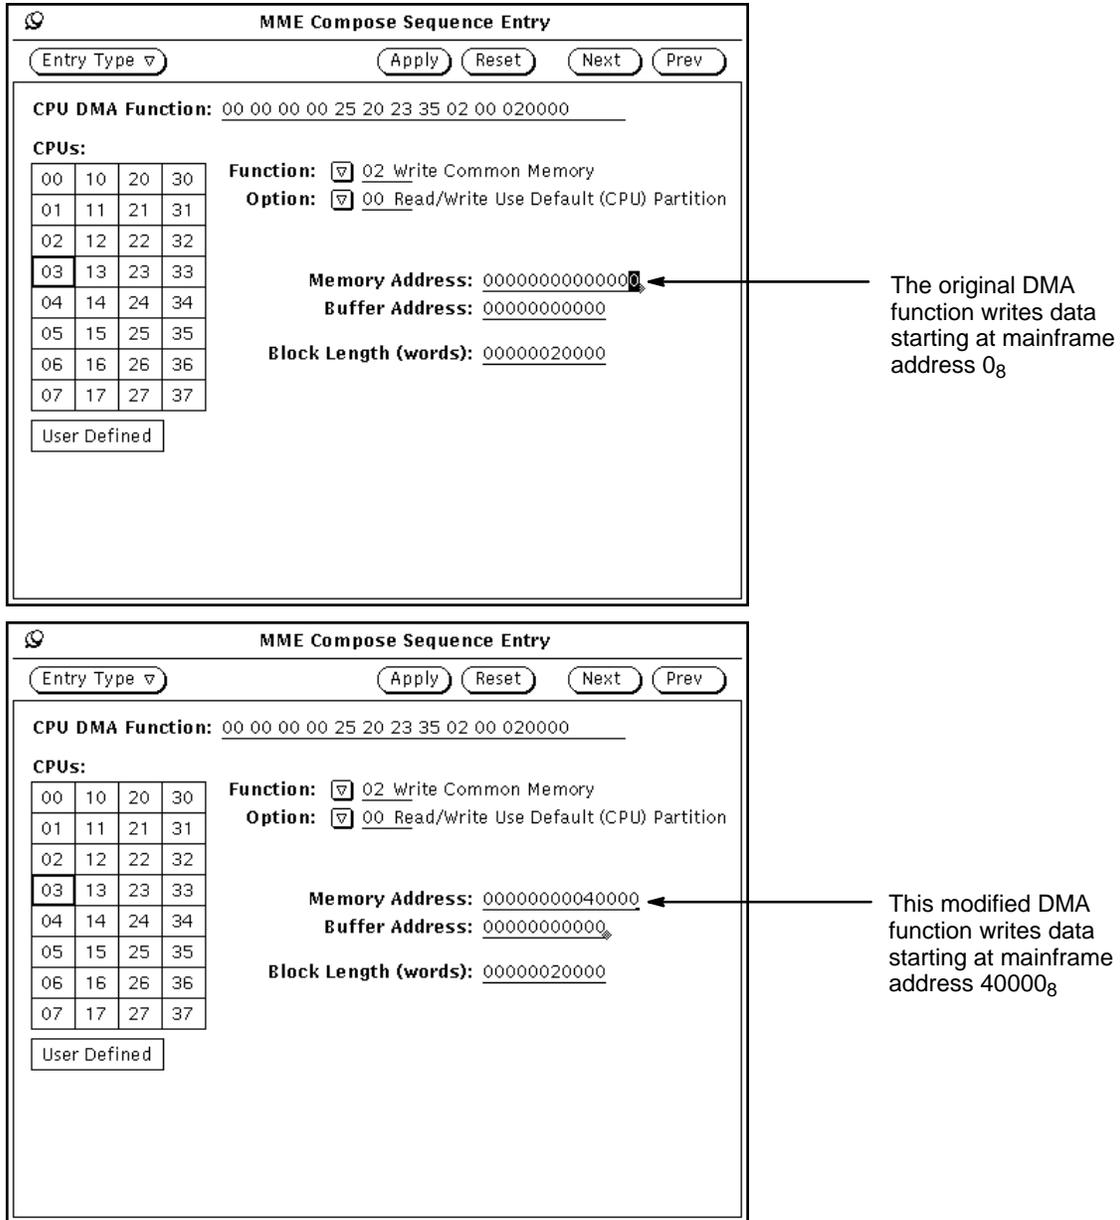

Figure 6. Modifying Where the DMA Function Writes the Data
4. Change where the direct memory access (DMA) function starts writing data by changing the value stored in the Memory Address field. For example, Figure 6 shows how to change the write address from 0₈ to 40000₈.